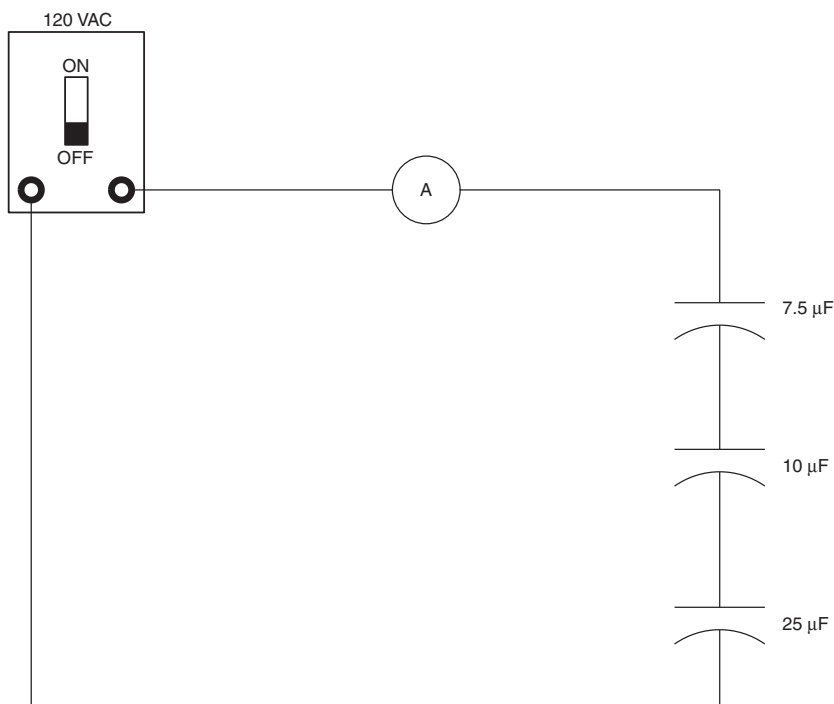

Figure 13-9 Capacitors connected in series.
15. Connect the three capacitors to form a series circuit as shown in Figure 13-9.